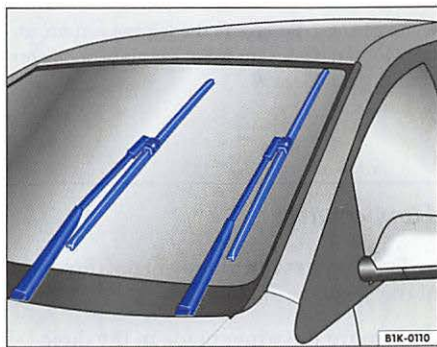

Fig. 11 Windshield wiper blades in Service position
- Within 10 seconds of switching off the ignition, push the windshield wiper lever down to the brief wiping position. The windshield wipers will then move up and stop in the “Service position” ⇒ fig. 11 so that you can easily access the wiper blades.